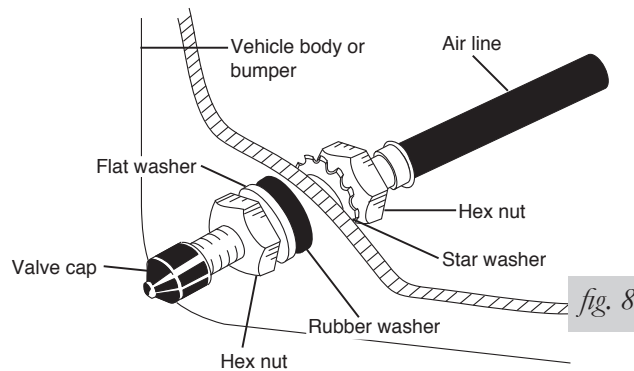

fig. 8
4. Place a 5/16" nut and a star washer on the air valve. Leave enough of the inflation valve in front of the nut to extend through the hole and have room for the rubber washer, flat washer, and 5/16" nut and cap. There should be enough valve exposed after installation - approximately 1/2" - to easily apply a pressure gauge or an air chuck (fig. 8).
5. Push the inflation valve through the hole and use the rubber washer, flat washer, and another 5/16" nut. Tighten the nuts to secure the assembly in place (fig. 8).